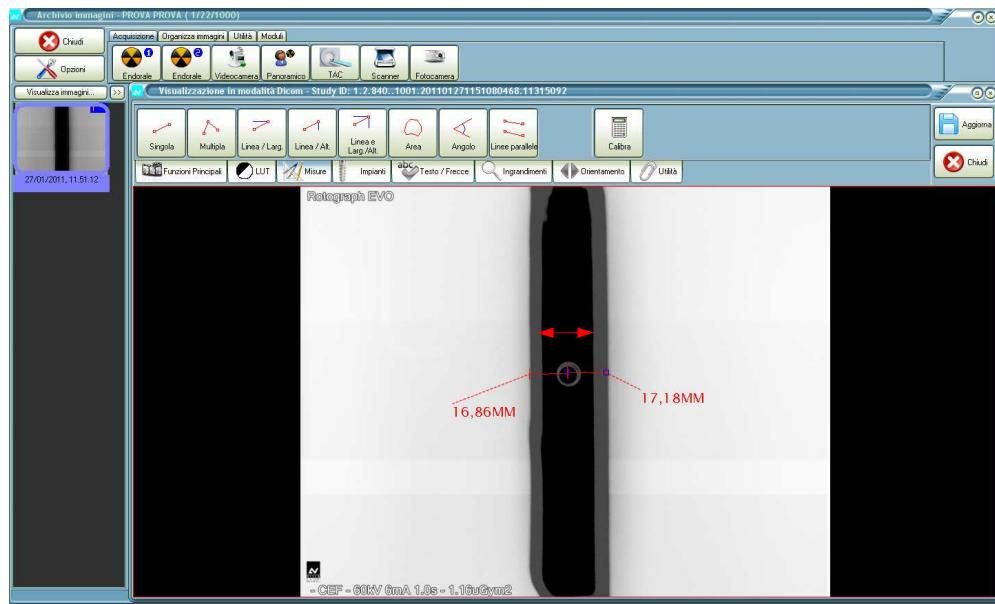

Figure 6-25
- 1.** Press "Exam Mode Selection" area (11) ; the Digital Sensor will be aligned to the X-ray beam.
- If the rings are not centered (Figure 6-25), it is necessary to adjust the mechanical position of the rings (see paragraph 9.7.1).